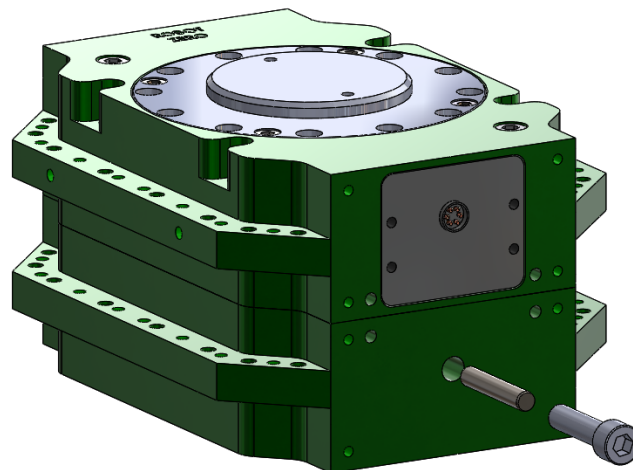

Figure 7.4-1. Manual Uncouple Feature
4. Insert an 8mm OD x 60mm long shaft followed by a M10x40mm long socket head cap screw in the hole located in the middle of Position 1 of the Tool Side Housing as shown in Figure 7.4-1. This requires any tool side module on Position 1 to be removed.